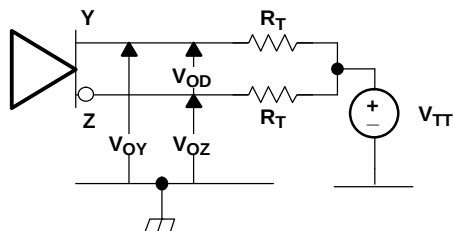

Figure 2. Output Voltage Test Circuit
| $V_{OH}$   | Output high voltage (2)    | $R_T = 50$ $\Omega$ , $V_{TT} = 3$ V to 3.6 V or $V_{TT} = 2.5$ V $\pm 5\%$ , See Figure 2 |  | $V_{TT}-60$   | $V_{TT}-10$        | $V_{TT}$     | mV   |
| $V_{OH}$   | Output high voltage (3)    | $R_T = 25$ $\Omega$ , $V_{TT} = 3$ V to 3.6 V or $V_{TT} = 2.5$ V $\pm 5\%$ , See Figure 2 |  | $V_{TT}-60$   | $V_{TT}-10$        | $V_{TT}$     | mV   |
| $V_{OH}$   | Output high voltage (2)    | $R_T = 50$ $\Omega$ , $V_{TT} = 1.8$ V $\pm 5\%$ , See Figure 2                            |  | $V_{TT}-170$  | $V_{TT}-10$        | $V_{TT}$     | mV   |
| $V_{OH}$   | Output high voltage (3)    | $R_T = 25$ $\Omega$ , $V_{TT} = 1.8$ V $\pm 5\%$ , See Figure 2                            |  | $V_{TT}-85$   | $V_{TT}-10$        | $V_{TT}$     | mV   |